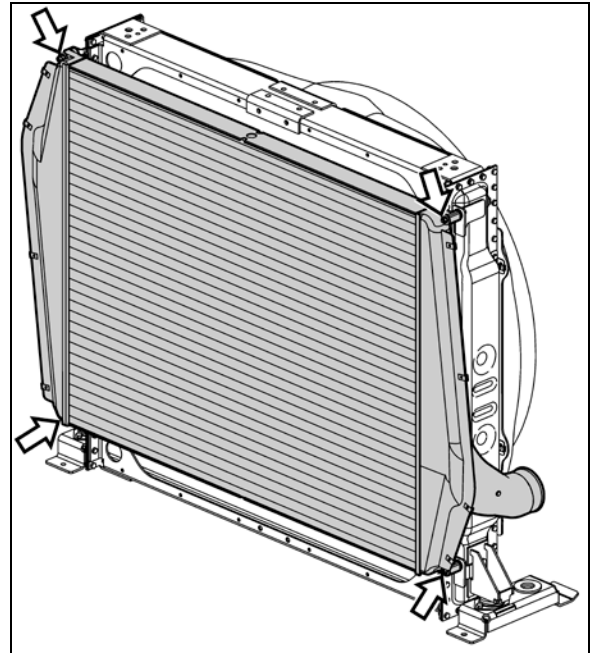

FIGURE 32: SEPARATING CHARGE AIR COOLER
18. Separate charge air cooler from radiator (Figure 32).